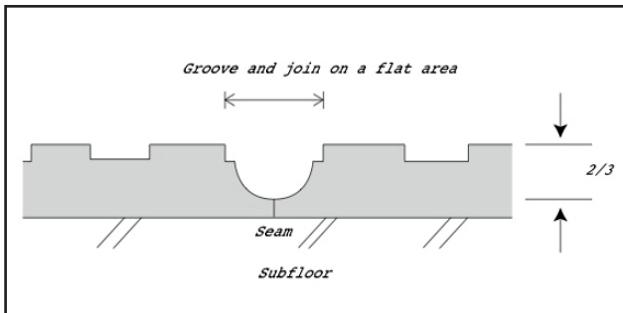

Fig. 10
- Groove only wide enough to accept a maximum 3.5mm welding thread. Groove depth should be two-thirds (2/3) of the product thickness. See Fig. 10.